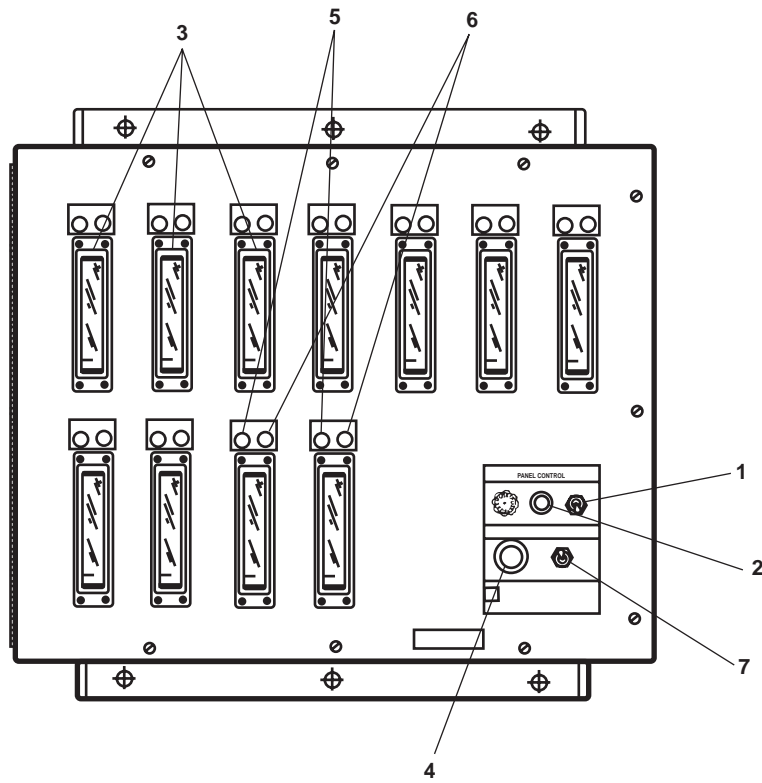

Figure 2. 11 Channel Master TLI Panel
- b. On the 11 channel master TLI panel in the EOS, set the ON-OFF switch (figure 2, item 1) to ON.
- d. Verify that the POWER indicator for each TLI panel (figures 2 and 3, item 2) illuminates.
- a. To monitor at a transmitter module, observe the fluid level meter (figure 2 & 3, item 3) to determine the correct fluid level.
- a. When the alarm speaker (figure 2, item 4) sounds on the 11 channel master TLI panel, observe the indicator lights (figure 2, item 5 or 6) to determine the cause.